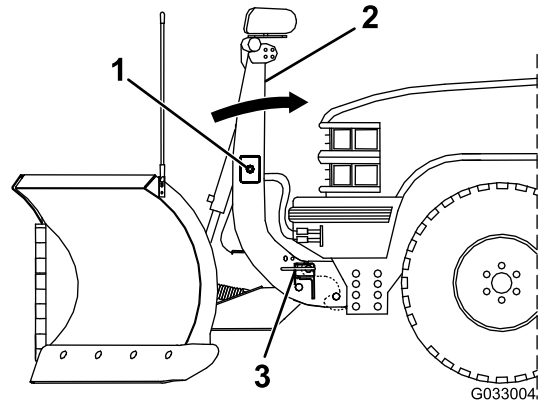

Figure 27
6. Push the SmartHitch2 switch on the side of the coupler tower upward and raise the tower until the spring pins lock in (Figure 27).